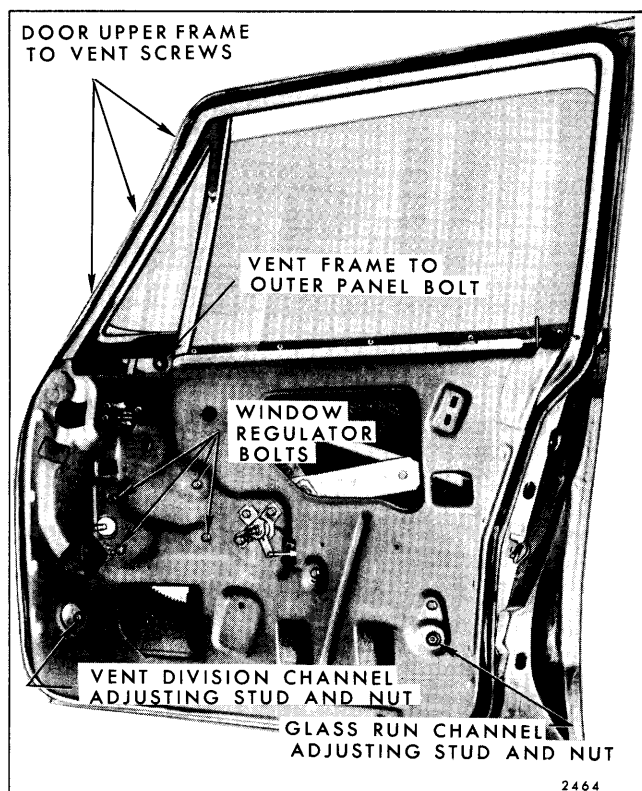

Fig. 6-73—Door Ventilator and Regulator Attachment - "B" Styles Shown, "A" Styles Similar
4. Remove ventilator division channel lower adjusting stud and nut and window regulator attaching bolts (Fig. 6-73).
3. Remove window regulator attaching bolts (Fig. 6-73) and remove regulator through access hole.